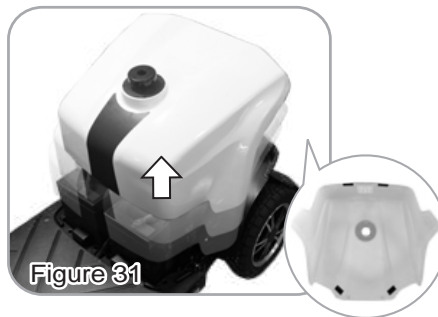

Figure 31
- Open the compartment cover upwards according to the example. (Figure 31)